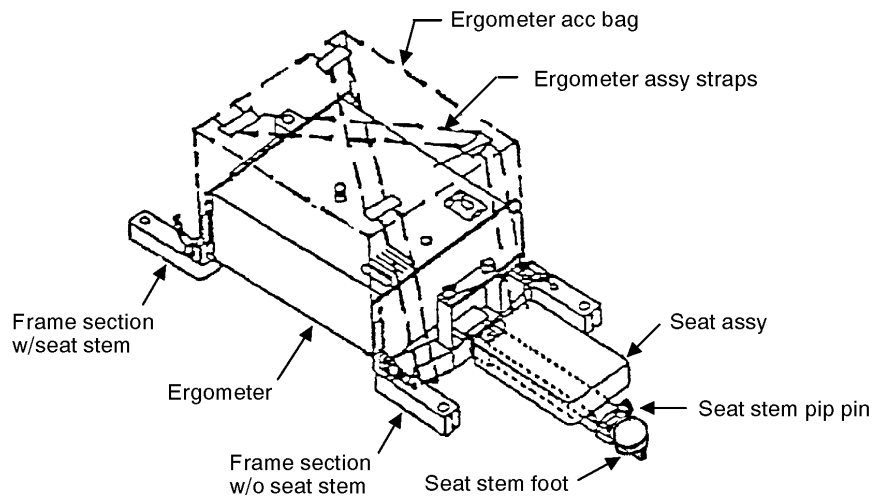

Figure 12-2.- Ergometer middeck launch/landing configuration (ergo assy).
15. Slide frame half, w/o seat stem, onto stem in launch/landing config (fig 12-2)
18. Attach Ergometer horizontally to frame w/pip pins (fig 12-2)
22. Mount frame to launch/landing position in middeck using frame/AQDs (four), w/seat stem facing forward (fig 12-2)
23. Using Ergo Assy Straps attach Ergo Acc Bag to Ergometer (fig 12-2)